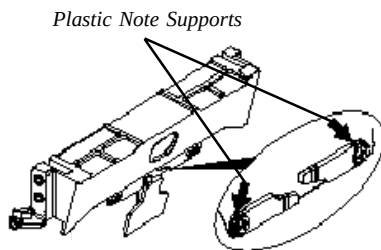

Figure 4-22. Move plastic note supports to the "not in use" position.
4. If note supports are plastic, adjust them to the “not in use” position as shown in Figure 4-22.